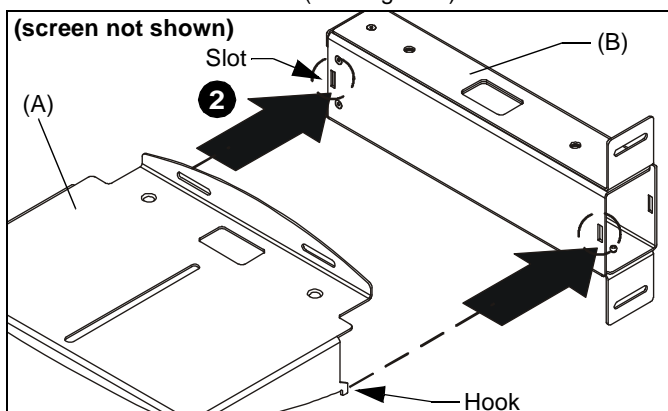

Figure 2
2. Slide shelf (A) into bracket (B), ensuring that tabs in shelf hook into bracket slots. (See Figure 2)